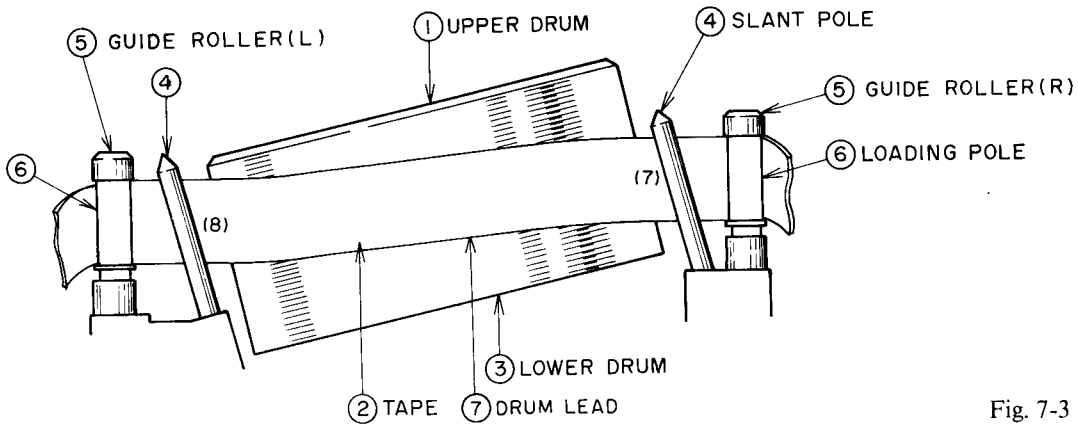
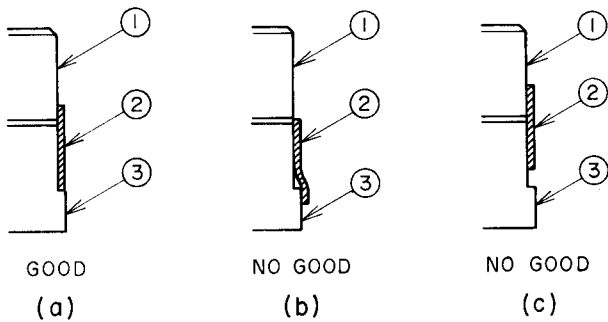
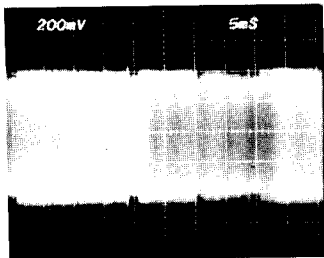
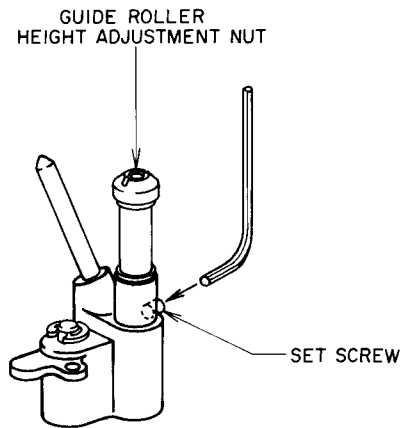

Fig. 7-3
Fig. 7-4
Fig. 7-5
Fig. 7-6
**7-3. GUIDE ROLLER HEIGHT ADJUSTMENT (Refer to Fig. 7-3 to Fig. 7-6)**
- 1) Slightly loosen the set screw at the lower part of the Guide roller so that the Guide roller can be adjusted with reasonable tightness. (See Fig. 7-6)
- 2) Connect an oscilloscope to TP1 pin ① (ENV) of the Pre-Amp P.C Board.
- 4) Ensuring it that the oscilloscope shows such a waveform as shown in Fig. 7-5 and also watching
- the point (7) of Fig. 7-3, adjust the height of the Guide roller (R) so that the tape runs without curling as shown in Fig. 7-4 (a).
- 5) Similarly, adjust the height of the Guide roller (L) watching the waveform on the oscilloscope and the point (8) of Fig. 7-3.